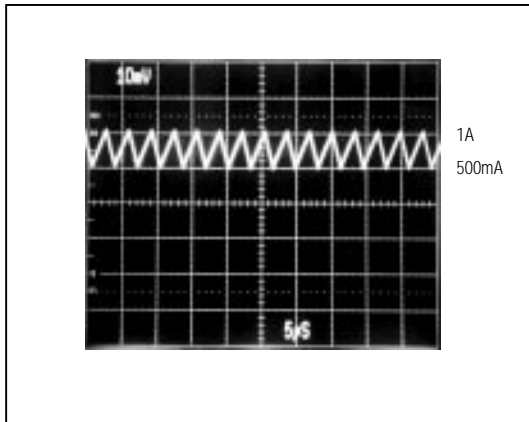

Figure 4a. CCM, Heavy Load Current Waveform (500mA/div)
The MAX761/MAX762 also limit the peak inductor current, allowing the devices to run in continuous-conduction mode (CCM) and maintain high efficiency with heavy loads (Figure 4a). This current-limiting feature is a key component of the control circuitry. Once turned on, the switch stays on until either (1) the maximum on-time one-shot turns it off (8µs later), or (2) the current limit is reached.
The coil's inductance need not satisfy this criterion exactly, as the circuit can tolerate a wide range of values. Larger inductance values tend to produce physically larger coils and increase the start-up time, but are otherwise acceptable. Smaller inductance values allow the coil current to ramp up to higher levels before the switch can turn off, producing higher ripple at light loads. In general, an 18µH inductor is sufficient for most applications ($V_{IN} \leq 5V$). An 18µH inductor is appropriate for input voltages up to 3.6V, as calculated above. However, the same 18µH coil can be used with input voltages up to 5V with only small increases in peak current, as shown in Figures 4a and 4b.